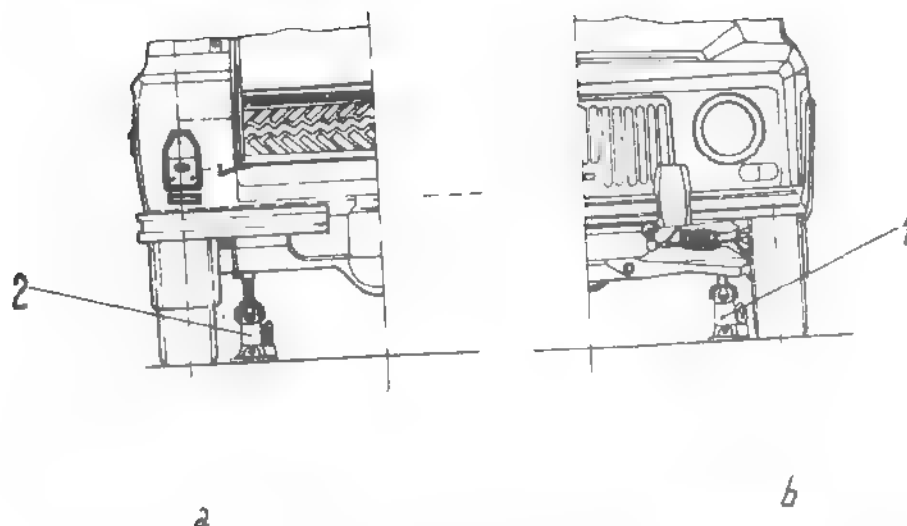

Fig. 2.9. FITTING HYDRAULIC JACK ON TAKING WHEELS DOWN
- Lift the car using a jack, which, should be propped as indicated in fig.2.9, until the wheel will rise 10...15 mm over the ground